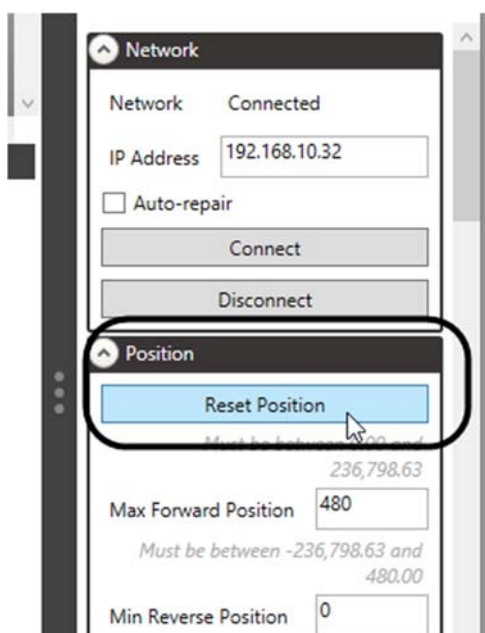

Figure 86
2. Click the **Reset Position** button in the **Stagehand Editing Pane** (Figure 86).